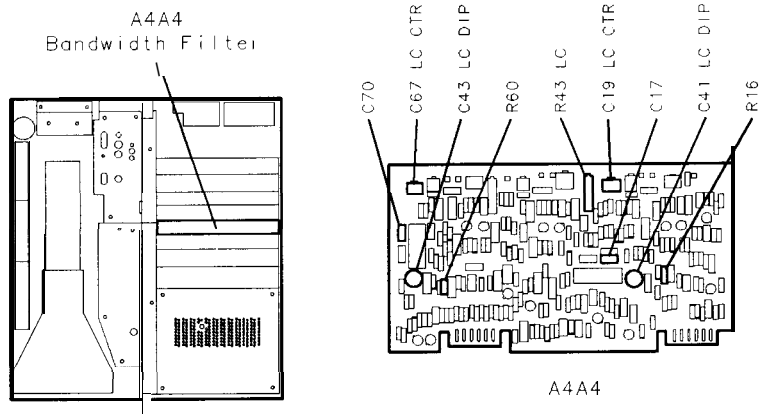

Figure 3-41.
9. Adjust A4A4C67 LC CTR and A4A4C19 LC CTR for maximum MARKER level as indicated by CRT annotation. See Figure 3-41 for location of adjustments. If unable to adjust LC CTR adjustments for satisfactory signal amplitude, increase or decrease value of A4A4C17 and A4A4C70. Refer to Table 3-3 for range of values.
13. Adjust A4A4R43 LC to align markers on display. **MARKER A** level should indicate 1.00 X. See Figure 3-41 for location of adjustment.
53. Adjust A4A4C41 LC DIP for minimum amplitude of signal peak. See Figure 3-41 for location of adjustment. Key in (PEAK SEARCH) MARKER (Δ), and adjust LC DIP again to offset the signal peak approximately -17 kHz (to the left). This is done to compensate for the effect of placing the board on extenders. If unable to achieve a “dip” in signal amplitude, increase or decrease value of A4A4R16. Refer to Table 3-3 for range of values.
55. Adjust A4A4C43 LC DIP for minimum amplitude of signal peak. See Figure 3-41 for location of adjustment. Key in (PEAK SEARCH) MARKER In], and adjust C43 LC DIP again to offset the signal peak approximately -17 kHz (to the left). If unable to achieve a “dip” in signal amplitude, increase or decrease value of A4A4R60. Refer to Table 3-3 for range of values.